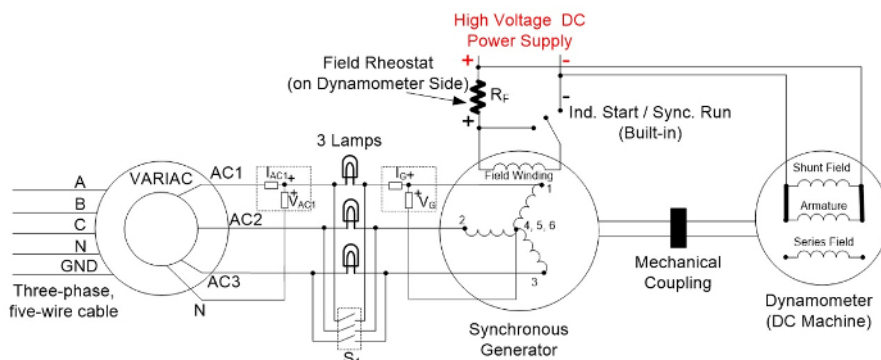

Figure 1: A schematic setup for the three-phase synchronous generator experiment. Please click here to view a larger version of this figure.
3. Wire the VARIAC to the three-phase outlet and connect the setup shown in Fig. 1.